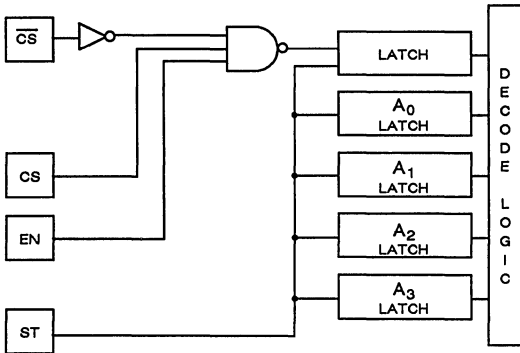

Figure 11.  $\overline{CS}$ , CS, EN, ST Control Logic
All four address inputs have on-chip data latches which are controlled by the Strobe (ST) input. These latches are transparent when Strobe is high but they maintain the chosen address when Strobe goes low. To facilitate easy microprocessor control in large matrices a choice of 3 independent logic inputs (EN, CS and  $\overline{CS}$ ) are provided on chip. These inputs are gated together (see Figure 11) and only when EN = CS = 1 and  $\overline{CS}$  = 0 is true can an output switch be selected by the appropriate address input (A0 to A3). This necessary logic condition can then be latched by Strobe (ST) going low.